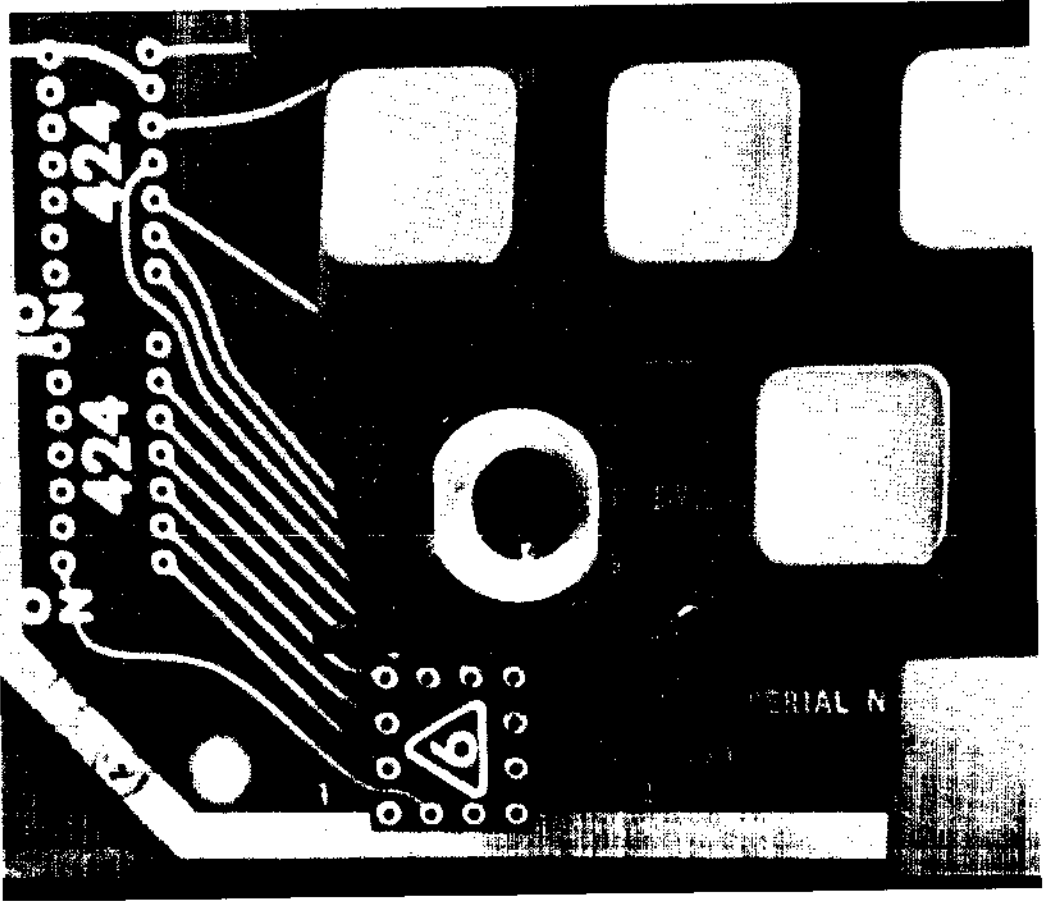

Figure 5-6
- g. Place the insertion tool guide in the switch housing making sure that the keyway is toward the front of the keyboard. (See figure 5-6).